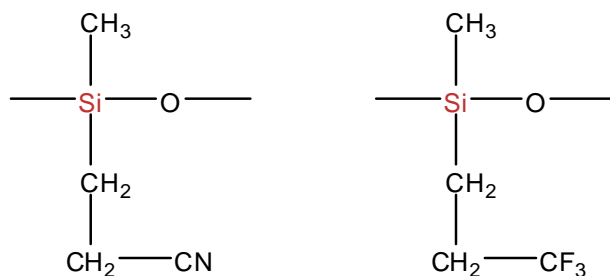

Figure 1. Oil resistant grades of silicone rubber with (left) nitrile functional groups and (right) fluorine functional groups. Back
The first compositions to exhibit oil resistance were those that had nitrile groups (CN) (figure 1) substituting for some of the methyl groups. These were superseded by silicones containing fluorine, which display excellent resistance to oils, hydrocarbons and solvents.